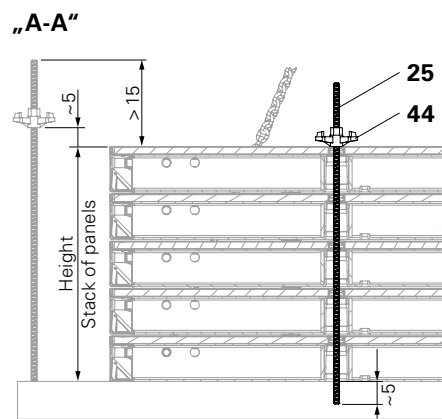

Fig. A1.11
2. Hold the tie rod (25) against the stack of panels in order to compare the height of the stack with the length of the tie rod.
3. Screw wingnut (44) onto the protruding end of the tie rod. Leave approx. 5 cm play between the stack and wingnut. (Fig. A1.11)
→ The tie rods prevent the panels from moving. (Fig. A1.11)